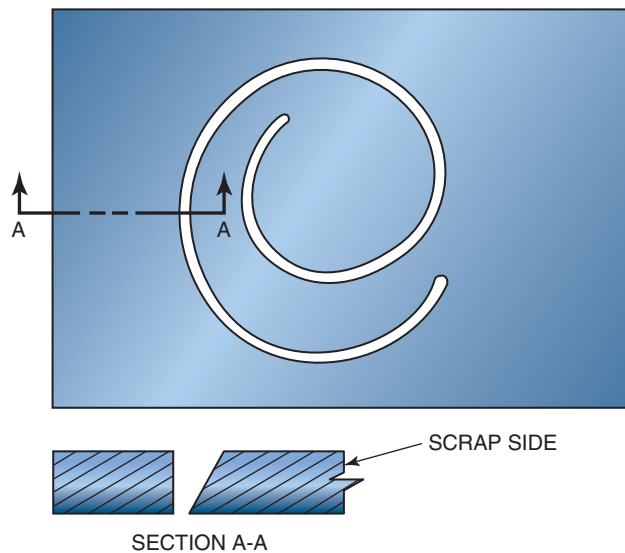

Figure 7.33 Flat cutting holes
3. Move the torch in an outward spiral until the hole is the desired size, Figure 7.33.